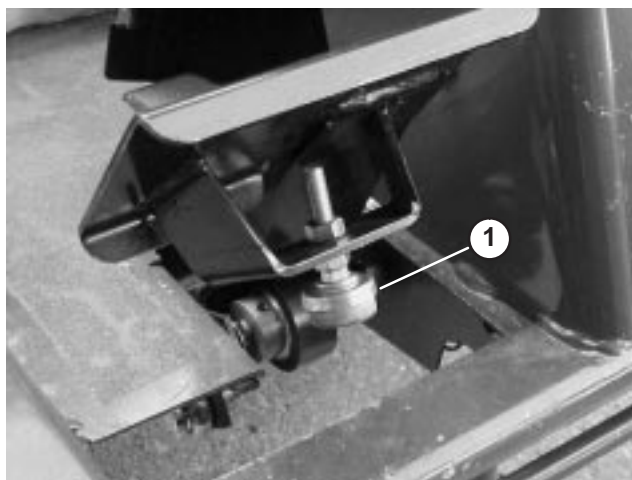

Figure 42
1. Check the traction pedal stop adjustment. The pedal stop (Fig. 42) should contact the frame slightly before the pump reaches full stroke.